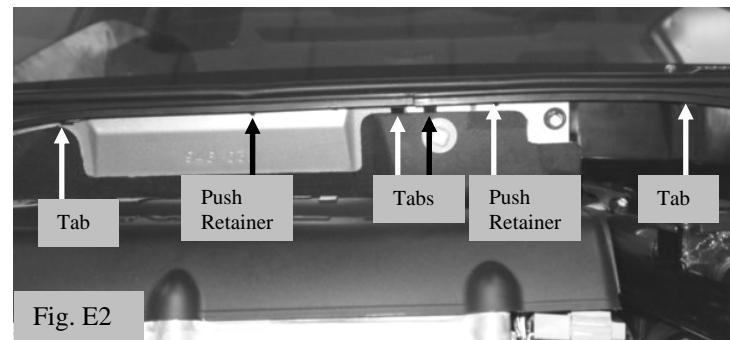

Fig. E2
- iii. Be sure to re-engage all (4) tabs and (2) seal retainers under the cowl. (Fig. E2)